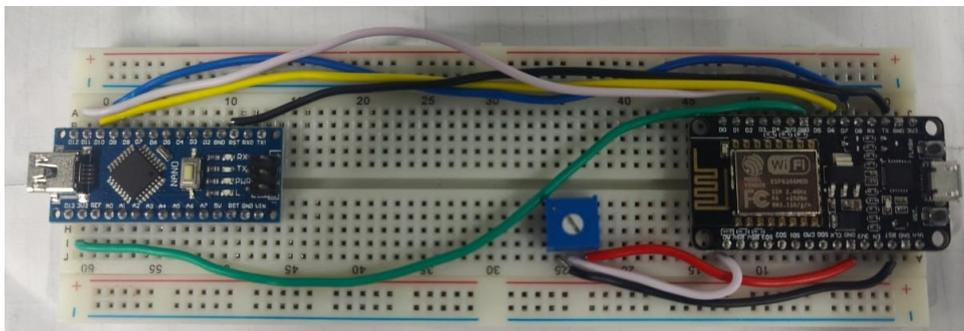

Figure 3: PartB-NodeMCU to Arduino Nano connections
Note: There may be a parallax error in the Figure 3 regarding the connections. This circuit image is provided for reference purposes only. Please follow the steps outlined in the procedure for correct pin connections.
- iv) Connect the 5V output from the CH2 of Keithley power supply to the top horizontal row labeled as 5V in the figure3.